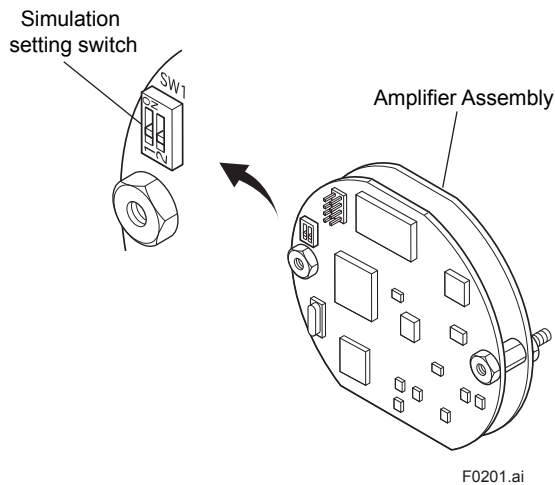

Figure 2.1 Diagram of the Amplifier Assembly
- (1) In the Fieldbus communication type, the amplifier(CPU) assembly consists of two boards, as shown in Figure 2.1.
- (2) In other communication types, there's the pin switch which is used for selecting the direction of hardware burnout at the position of 'SW1' on the amplifier assembly, while Fieldbus communication type does not have this pin.
- (3) The Fieldbus communication type has a simulation function. A SIMULATE-ENABLE switch is mounted at 'SW1' on the amplifier. Refer to Section 6.3, "Simulation Function" for details of the simulation function.